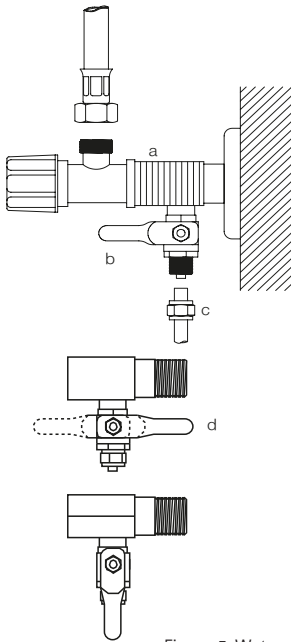

Figure 5. Water connection fittings
- First, mount the 1/4 ball valve to the three-way adapter by wrapping a teflon tape in a position so that the valve is opened and closed easily (Figure 5.a).
- Connect the water inlet hose to the ball valve (Figure 5.b).
- Make sure the ball valve is closed (Figure 5.c).
- Open the mains water, check whether there is any leakage (Figure 5.d).